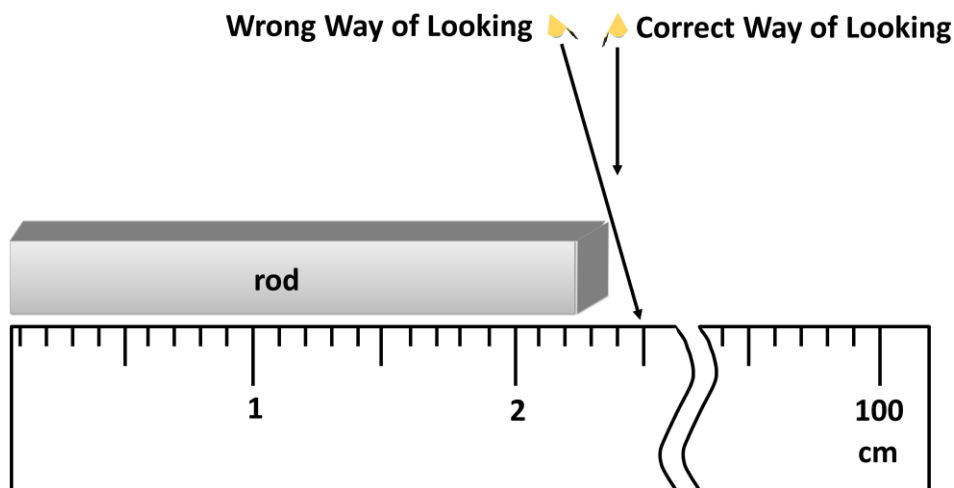

Figure 3: A comparison between the correct way and wrong way to make a measurement using a ruler
- 3) Systematic errors are not caused only by lack of calibration of instruments which will be obvious from this third example. Consider a student who tries to measure the length of a rod as shown in Figure 3. The correct way of looking is straight down perpendicular to the scale. If the student is not looking perpendicularly to the scale, then he will make an incorrect reading of the position of the edge of the rod, and thereby overestimating the length of the rod.